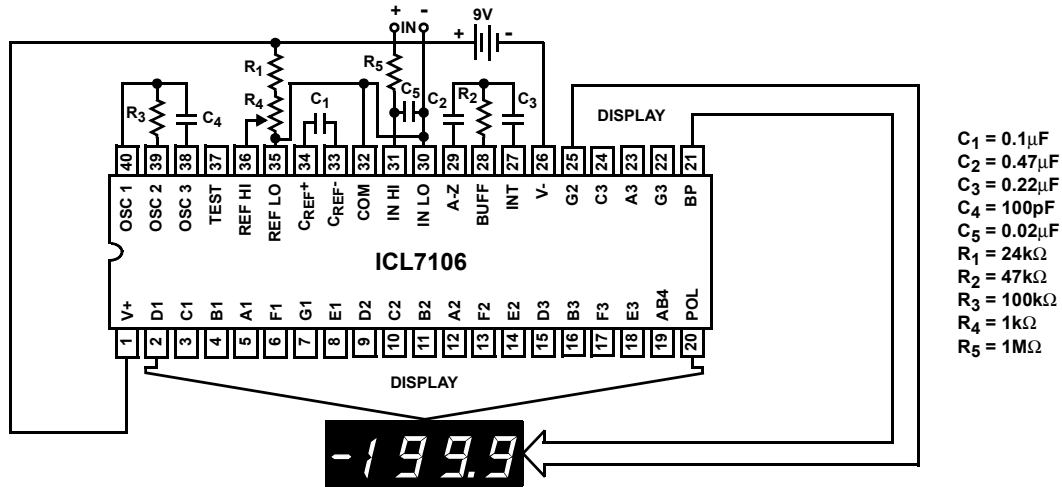
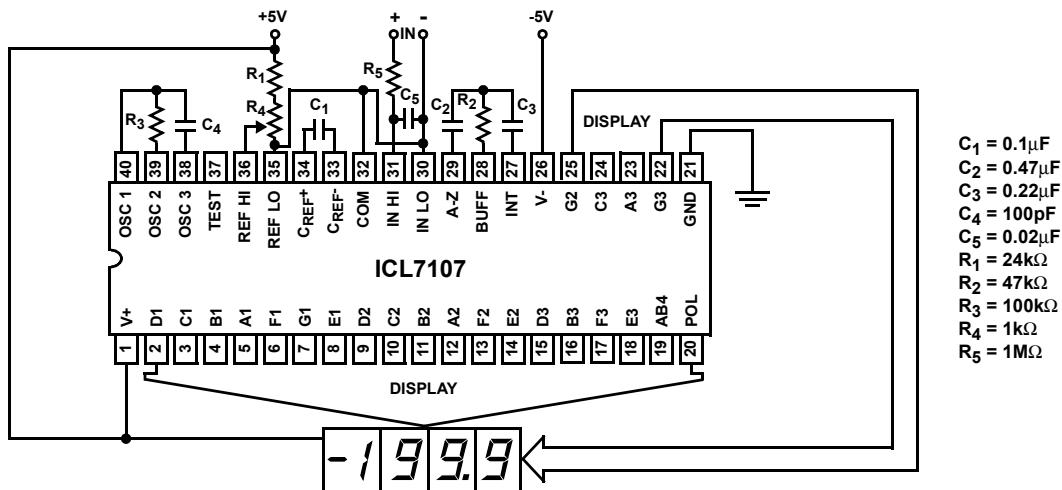

FIGURE 1. ICL7106 TEST CIRCUIT AND TYPICAL APPLICATION WITH LCD DISPLAY COMPONENTS SELECTED FOR 200mV FULL SCALE
FIGURE 2. ICL7107 TEST CIRCUIT AND TYPICAL APPLICATION WITH LED DISPLAY COMPONENTS SELECTED FOR 200mV FULL SCALE
3. Unless otherwise noted, specifications apply to both the ICL7106 and ICL7107 at $T_A = 25^\circ\text{C}$, $f_{\text{CLOCK}} = 48\text{kHz}$. ICL7106 is tested in the circuit of Figure 1. ICL7107 is tested in the circuit of Figure 2.